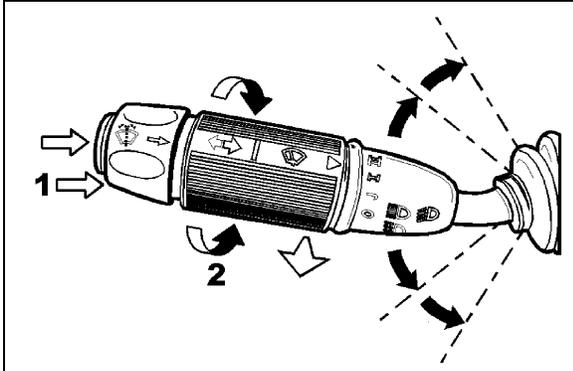

FIGURE 33: MULTIFUNCTION LEVER 23133
Turn the multifunction lever forward to activate windshield wipers (item 2, fig. 33). The first position operates the wipers at low speed and the second position operates the wipers at high speed. Turning the lever backwards will operate the wipers in the intermittent mode.
The windshield washer pumps are electrically operated and are controlled by a washer control ring on the multifunction lever (item 1, fig. 33).